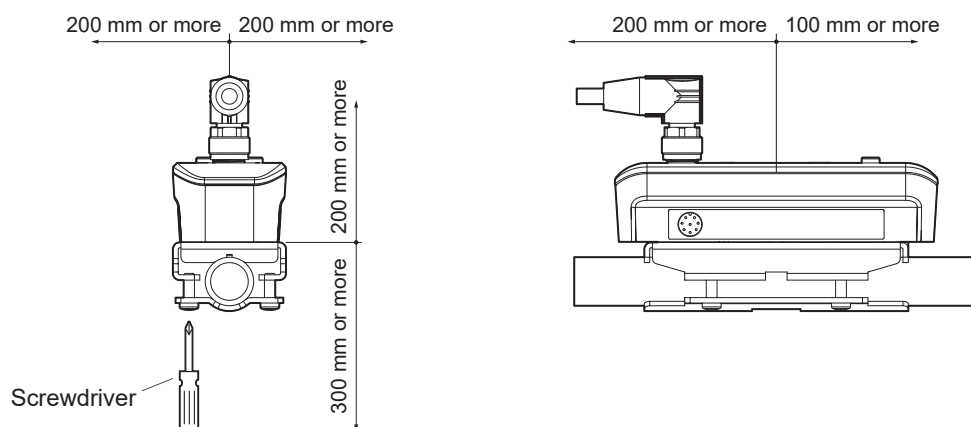

Fig. 2-1 Space required for flowmeter mounting location
- (1) Ensure that the location is a straight pipe as indicated in « 2.1.1 Conditions on straight pipe ».
- (2) Ensure there is space for maintenance around the pipe to which the flowmeter is to be mounted. (Refer to « Fig. 2-1 ».)